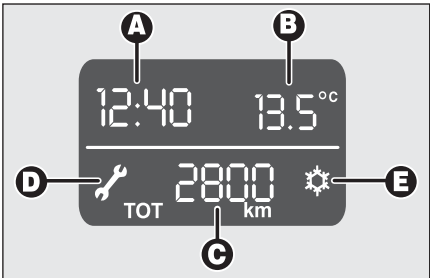

fig. 22
- ☐ Clock **A-fig. 22**;
- ☐ Scheduled servicing (symbol **D-fig. 22**).
- ☐ Symbol of possible presence of ice on the road (symbol **E-fig. 22**).